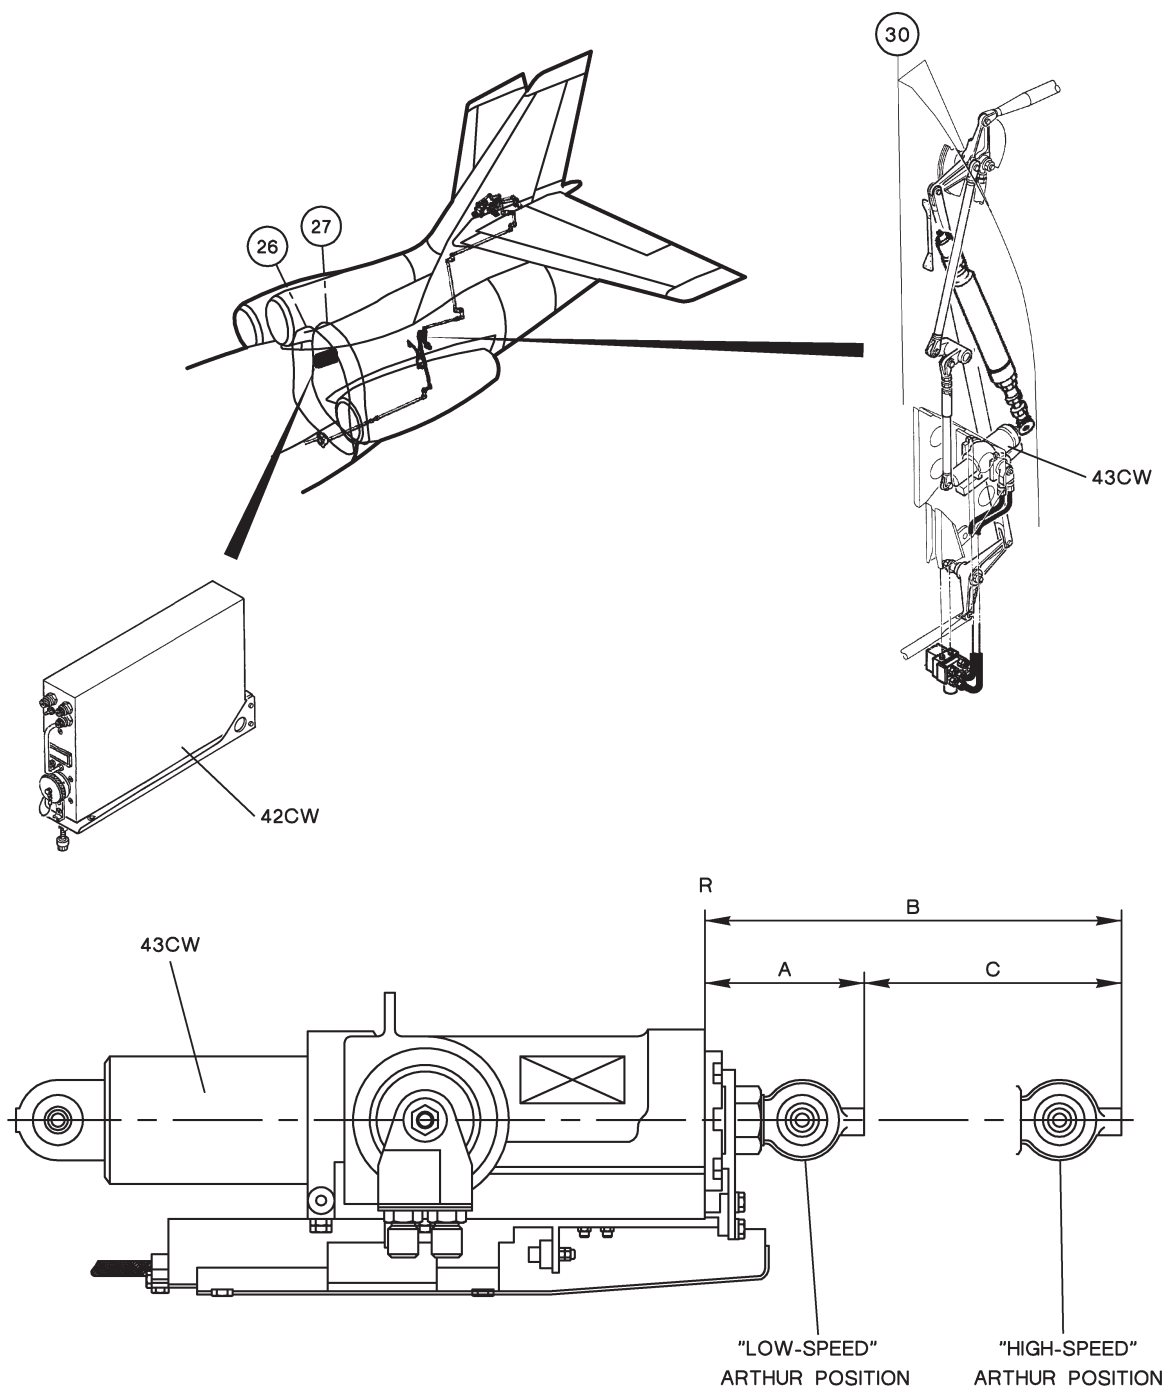

FIGURE 4: LOCATION OF PITCH ARTHUR COMPONENTS
A. Location of Pitch Arthur Components (Refer to Figures 4 and 5)
- C. Set Horizontal Stabilizer (HS) deflection to - 4°30'.
- E. Measure and record dimension (A) between a reference point (R) located on the variable bellcrank body and another point located at the end of the variable bellcrank rod (see Figure 4 or 5).
- (1) Set HS deflection, in 1° increments, from - 4° to + 1°.
- (2) For each HS deflection angle, measure and record dimension (B) between reference point (R) (chosen to measure dimension (A)) located on the variable bellcrank body and another point located at the end of the variable bellcrank rod (see figure 4 or 5).
- (3) Calculate the difference between dimension (B) and dimension (A).
NOTE: This difference represents travel value (C) of pitch ARTHUR variable bellcrank (43CW) (refer to Figure 4 or 5).
- (4) Record the measured values in Table 1, column "VALUE NOSE UP", opposite the corresponding HS deflection angle value.
- (5) Make sure that the recorded values are in compliance with Table 1, columns "MIN. "ARTHUR" TRAVEL" and "MAX. "ARTHUR" TRAVEL".
- (6) Set HS deflection to + 1°30'.
- (7) Do the same operations listed above and record the measured values in Table 1, column "VALUE NOSE DN", setting HS deflection, in 1° increments, from + 1° to - 4°